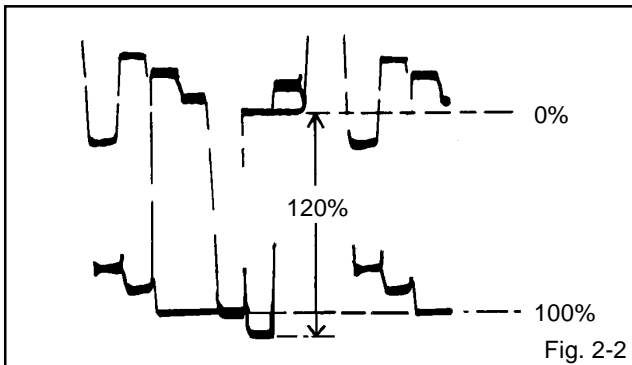

Fig. 2-2
7. Press the VOL. UP/DOWN button on the remote control until the red color level is adjusted to 120% of the white level. (**Refer to Fig. 2-2**)